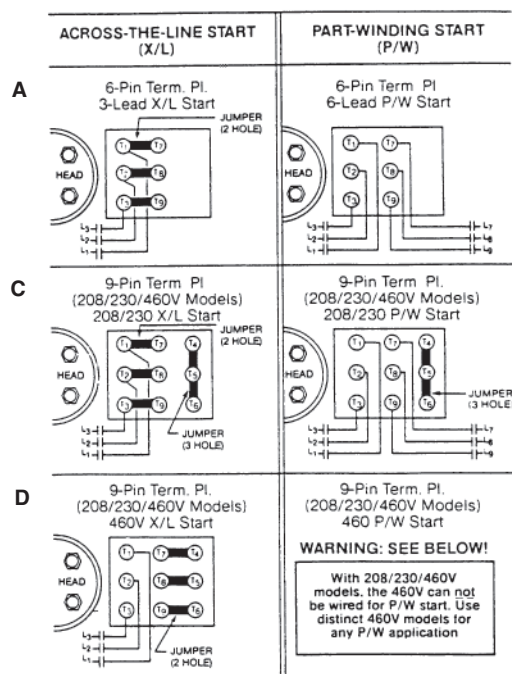

FIGURE 1
CAUTION: Do not charge oil through the suction line or through the compressor suction access fittings. See Figures 1 & 2 for the recommended oil charging port. Adding oil into the suction side of the compressor can cause damage to the suction/discharge valves, pistons, and/or connecting rods.
Consult the wiring diagram located inside the compressor terminal box cover and Fig. 1 shown below for wiring connection locations.
The (3) jumper bars supplied with the compressors are required for 3-Lead XL start only. Jumpers are assembled directly on terminal studs connecting T1 & T7, T2 & T8 and T3 & T9 as shown in (Fig. 1-A).
D. 6-Lead Across-the-Line (X/L) or Part Winding (P/W) start (Fig. 1-B):
E. For 9-pin terminals for 208/230V-3-60 or 200V-3-50 "Across-the-Line" start applications, connect the jumper bars as follows (Fig. 1-C):
1. Install (3) 2-hole copper jumper bars connecting terminals 1 to 7, 2 to 6, and 3 to 9.
7. Install (9) terminal nuts (included in this kit) on terminal studs to secure jumper bar/line connections. Tighten terminal nuts to 18 lb-ft (24 n-m) maximum.
F. For 9-pin terminals for 208/230V-3-60 or 200V-3-50 "Part Winding" start applications, connect the jumper bars as follows (Fig. 1-D):
6. Install (9) terminal nuts (included in this kit) on terminal studs to secure jumper bar/line connections. Tighten terminal nuts to 18 lb-ft (24 n-m) maximum.
G. For 9-pin terminals for 460V-3-60 or 400V-3-50 "Across-the-Line" start applications, connect the jumper bars as follows (Fig. 1-E):
1. Install (3) 2-hole copper jumper bars connecting terminals 7 to 4, 8 to 5, and 9 to 6.
3. Install (9) terminal nuts (included in this kit) on terminal studs to secure jumper bar/line connections. Tighten terminal nuts to 18 lb-ft (24 n-m) maximum.